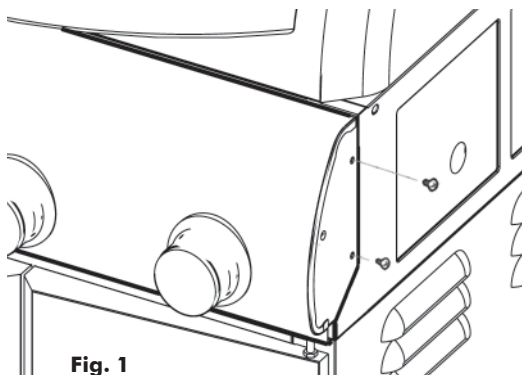
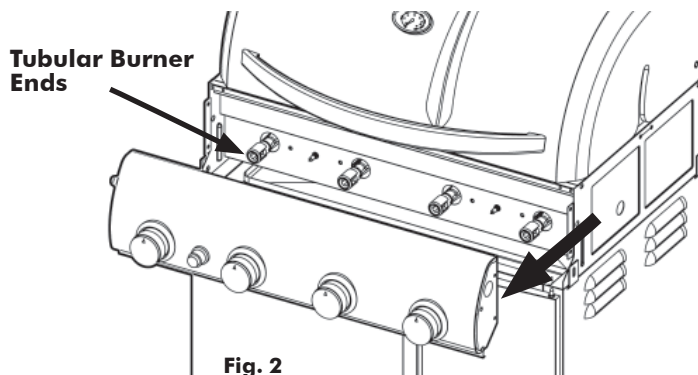

Fig. 1
Fig. 2
4. Figures 1, 2, 4 and 4a show the grill at assembly step 7, prior to attaching the Side Tables, and illustrate the initial steps in the “FIRST TIME USE LEAK TEST”.
Detach the Control Panel from the Grill Body/Firebox by removing the two 5/32” Bolts from each end. (Fig. 1) Gently pull the Control Panel away from the Body until Valves disengage from the Tubular burner ends. (Fig. 2) Support the Control Panel to keep tension off of the igniter wire leads or detach the wire leads from the Starter Button module.
10. Re-attach the wire leads to the Igniter Button. Replace Control Panel around flanges at Bowl ends and align bolt holes on each side. Replace and retighten all bolts. (Fig. 1)